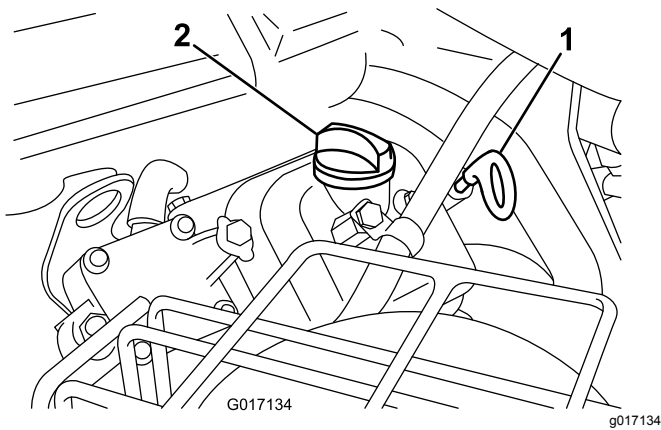

Figure 37
3. Insert the dipstick into the dipstick tube and thread it into the tube (Figure 37).